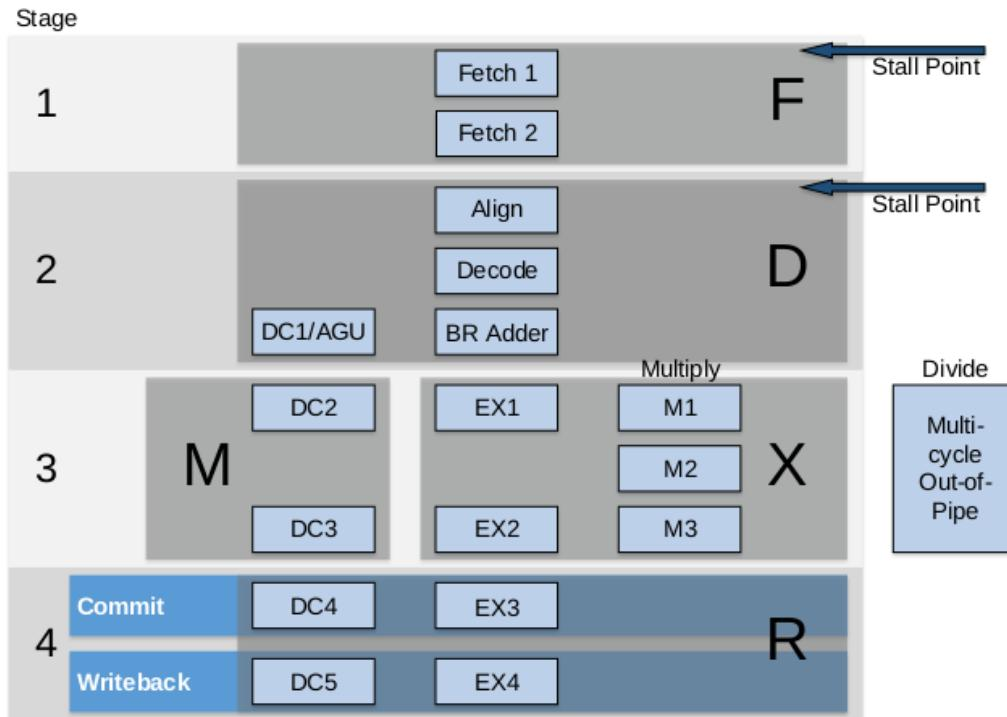

Figure 3. VeeR EL2 core microarchitecture
Western Digital developed three RISC-V cores over the past few years: VeeR EH1 (formerly called SweRV), VeeR EH2 (or SweRV EH2 previously), and VeeR EL2 (the core we use in this course, formerly called SweRV EL2). Each core has an Apache 2.0 license. The VeeR EH1 Core (<https://github.com/chipsalliance/Cores-VeeR-EH1>) is a 32-bit, 2-way superscalar, 9-stage pipeline core. The VeeR EH2 Core (<https://github.com/chipsalliance/Cores-VeeR-EH2>) builds on and expands the EH1 Core to add dual threaded capability for additional performance. The VeeR EL2 Core (<https://github.com/chipsalliance/Cores-VeeR-EL2>) is a smaller core with moderate performance (see Figure 3) is a scalar 4-stage core with one execution pipeline, one load/store pipeline, one multiplier pipeline, and one out-of-pipeline divider. There are two stall points in the pipeline: 'Fetch' and 'Decode'. The figure also shows how VeeR EL2's logic stages have been shifted up with respect to VeeR EH1 and merged into 4 stages named Fetch (F), Decode (D), Execute/Memory (X/M), and Retire (R). Also shown is additional logic such as a new branch adder in the D stage, not included in VeeR EH1. The branch mispredict penalty is either 1 or 2 cycles in VeeR EL2. The merged F stage performs the program counter calculation and the I-cache/ICCM memory access in parallel. The load pipeline has been moved up so that the DC1 memory address generation (AGU) logic is now combined with align and decode logic to enable a DCCM memory access to start at the beginning of the M stage. The design supports a load-to-use of 1 cycle for smaller memories and a load-to-use of 2 cycles for larger memories. For 1-cycle load-to-use, the memory is accessed and the load data aligned and formatted for the register file and forwarding paths, all in the single-cycle M stage. For 2-cycle load-to-use, almost the entire M stage is allocated to the memory access, and the DC3/DC4 logic combined into the R stage is used to perform the load align and formatting for the register file and forwarding paths.